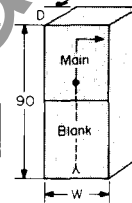

Figure 4 ③
Floor Plan (Figure 4 Only)
- ① Rigid bus extension into pull section is required above 2000 amp.
- ② Clear area assumes no floor channels used under front or rear frame members.
- ③ For inverted fusible bolted pressure switch requiring no pull section for bottom entrance, see Fig. 4. Units mount in top position only.
- ④ Refer to Westinghouse for dimensions.
- ⑤ Mounted in bottom only.